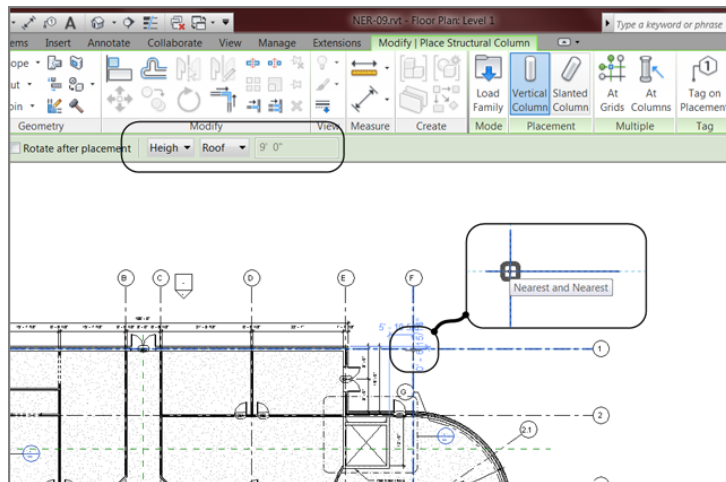

FIGURE 8.24: Placing the column at grid intersection F-1
10. On the Options bar, make sure Height is set to Roof, as shown in Figure 8.24.